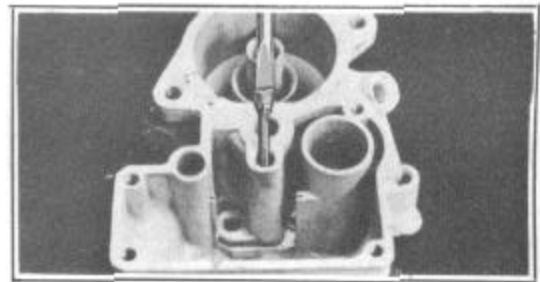

FIGURE 29
10. Install low speed jet assembly, Figure 29. (Be sure jet seats firmly in casting.)